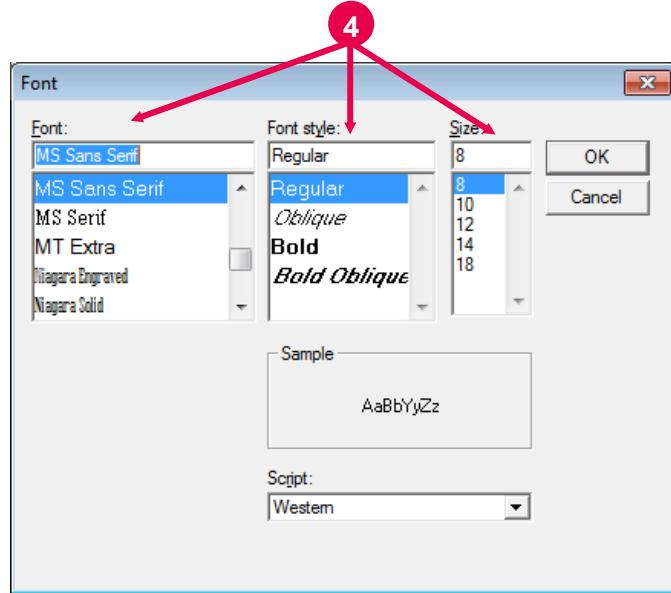

Fig. 1-63 Font Specification
(3) Upon clicking **Select**, a dialog box as in Fig. 1-63 appears.